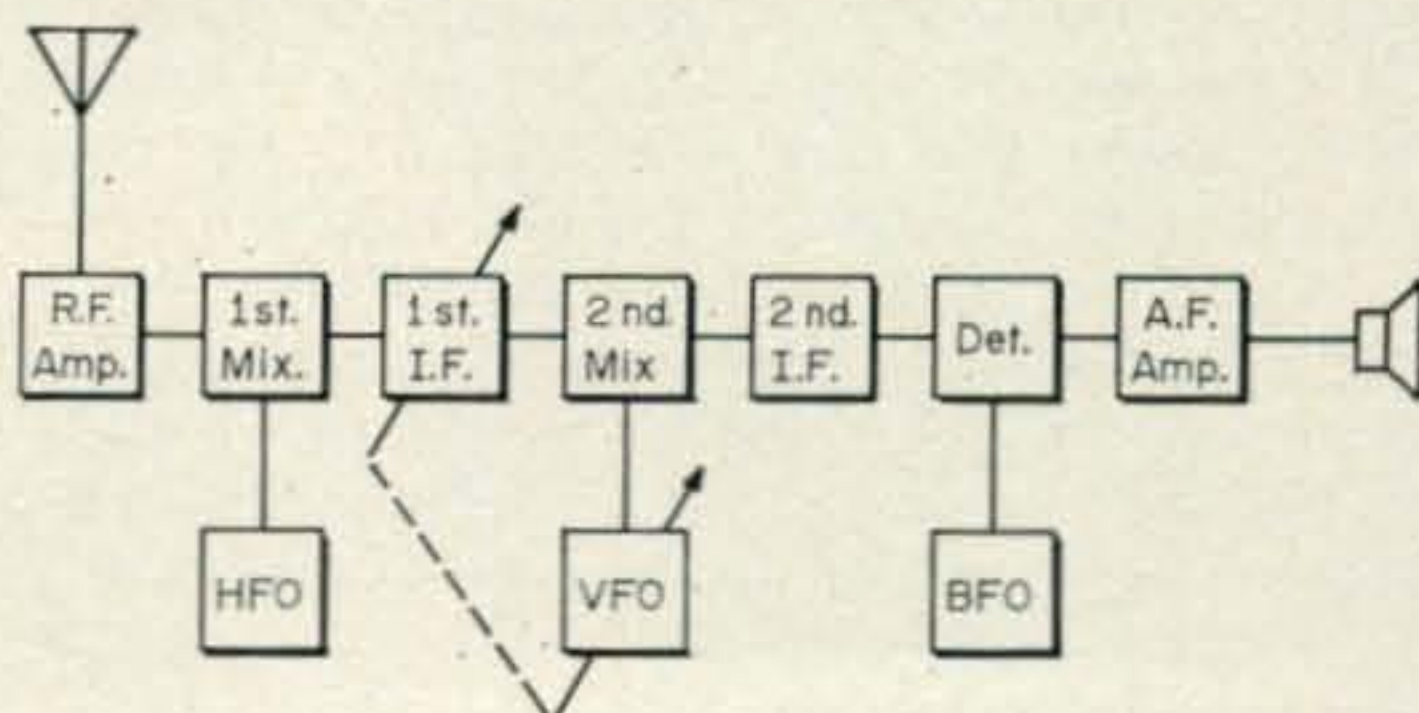

Fig. 1—Block diagram of a typical double superheterodyne.
AN article in the June 1965 issue of *CQ*¹ described several modifications to improve the performance of the 75A-4 receiver. I have since received many calls from those who made these modifications, asking why the recovery time was so slow in the SLOW AVC position. This can be corrected as shown in fig. 1. Figure 1(A) shows how C_{20} is ungrounded and connected to the junction of R_{98} and R_{104} . The 0.01 is added for improved r.f. bypassing. Figure 1(B) shows how components R_{90} and C_{112} are removed to improve the recovery time.
The changes shown in fig. 1(C) provides an increased negative bias on the control grid of V_{22} to insure complete muting. ■
Fig. 1 (A) and (B)—Modifications to the 75A-4 improve recovery time in the SLOW AVC setting. The shielded wire that is added should have the braid grounded at both ends. (C) This modification improves the muting action.
To give the reader an understanding of the operation and application of this local oscillator system let us look at the block diagram of a typical double conversion ham receiver shown in fig. 1. (It is assumed that the reader understands the reasons for the double conversion system.)